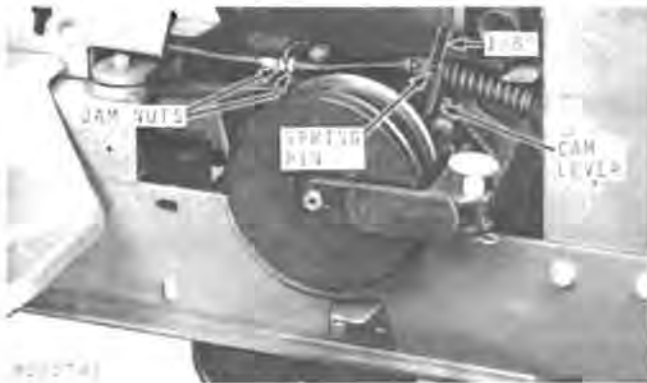

Fig. 6-Adjusting PTO Clutch
2. Loosen front jam nut and tighten rear jam nut on cable conduit, Fig. 6, until 1/8-inch clearance exists between the spring pin and the cam lever when the PTO clutch lever is moved to the engaged position (up).